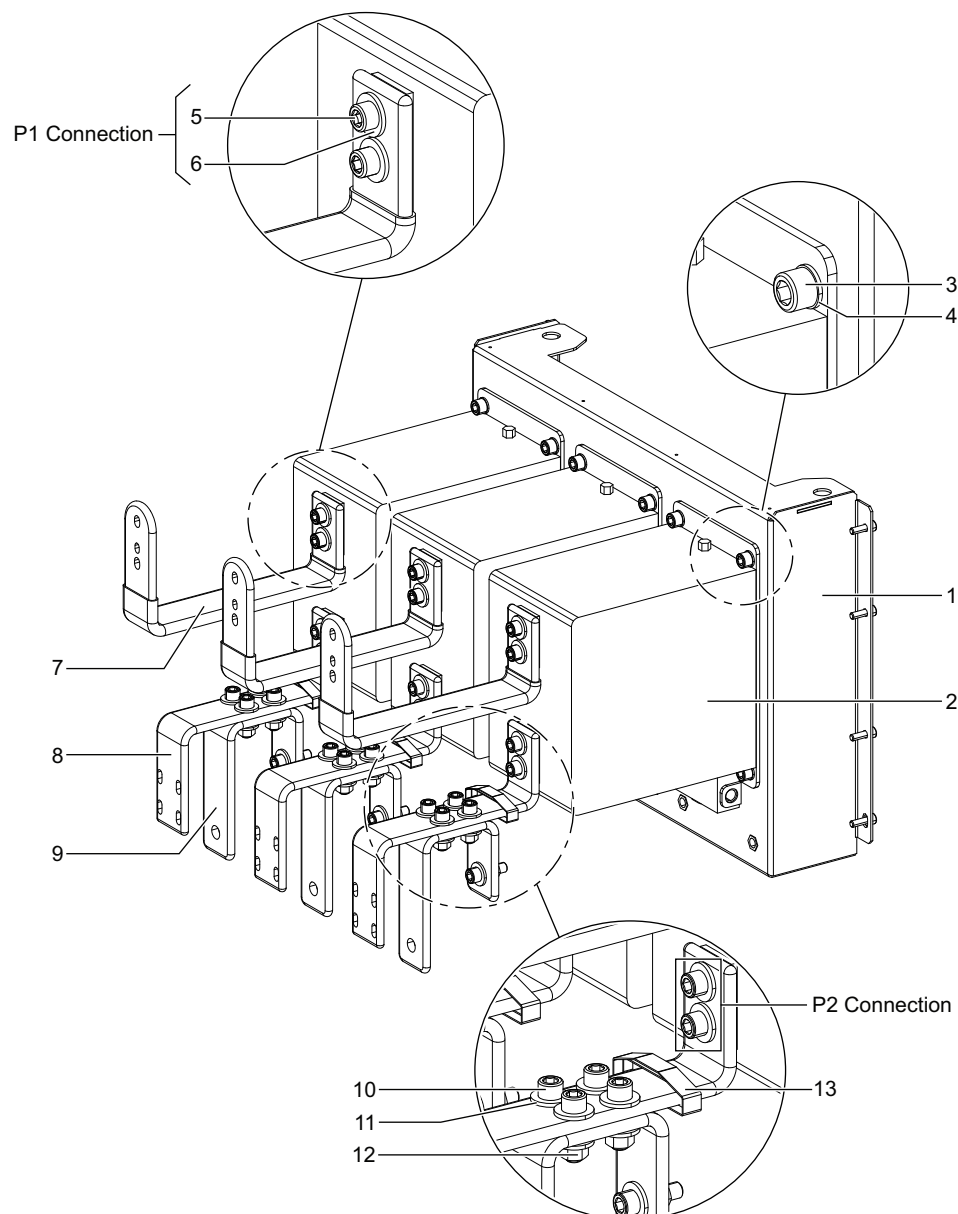

Figure 57
1. Place the CT (2) on the mounting plate (1) (Figure 57).
2. Insert the washers (4) and the screws (3) in the mounting holes at each corner of the CT (2).
3. Tighten each screw (3) to a torque of 68 N•m.